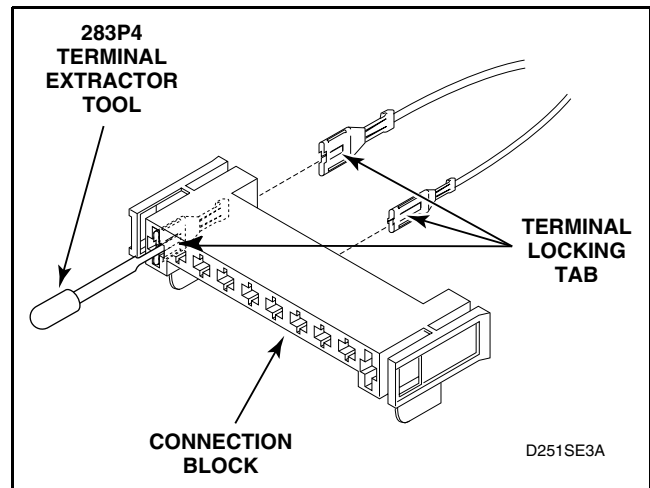

Figure 33
- (1) Insert the tool into the block on the back of the terminal being removed. Refer to *Figure 33*.
- (2) Apply tool pressure to compress the terminal locking tab on terminal and force the terminal and wire out back side of connection block. Refer to *Figure 33*.